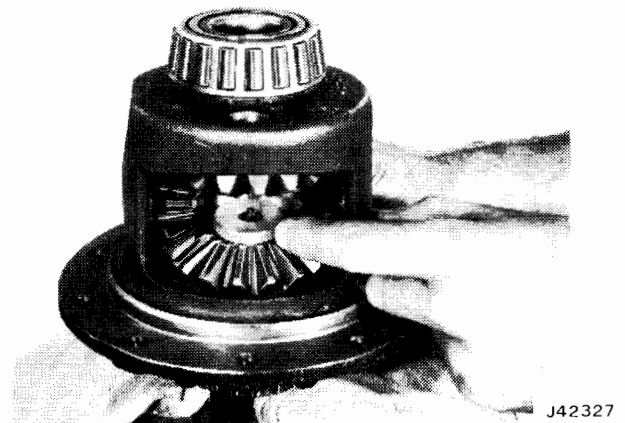

Fig. 10-67 Installing Step Plate
(11) Install step plate in lower differential side gear (fig. 10-67).